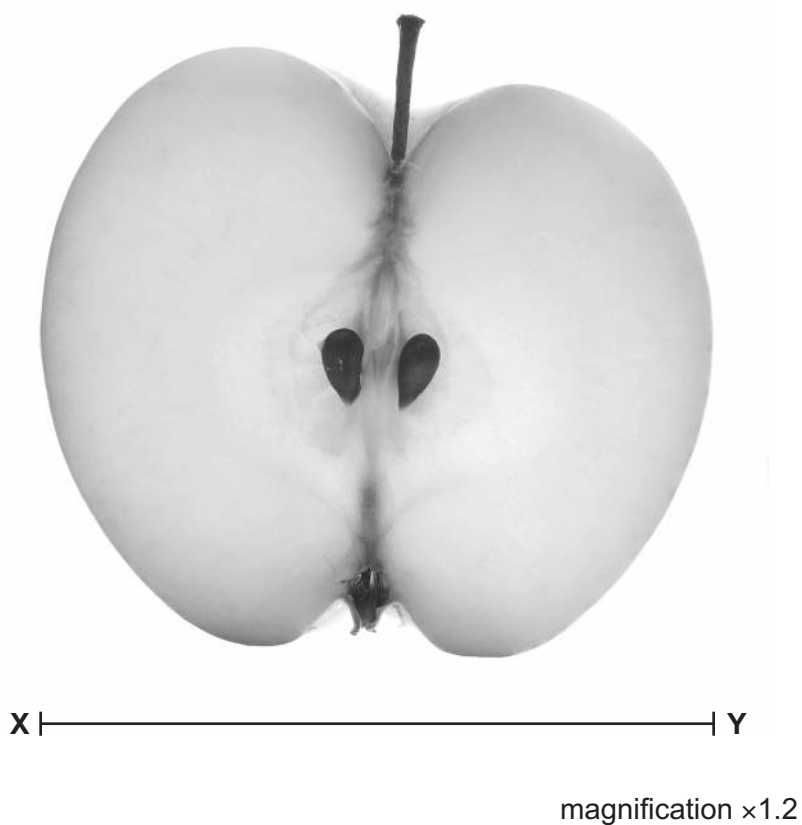

Fig. 2.1
2 Fig. 2.1 is a photograph of the cut surface of half an apple.
- (a) (i)** Make a large drawing of the apple shown in Fig. 2.1.
- (ii)** Measure the length of line **XY** on Fig. 2.1.